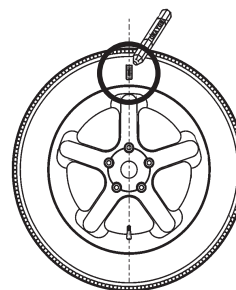

Figure 36
- After the measuring run readjust the wheel following the direction indicator and make a chalk mark on the right side of the tire exactly perpendicular to and above the main shaft (Fig. 36).